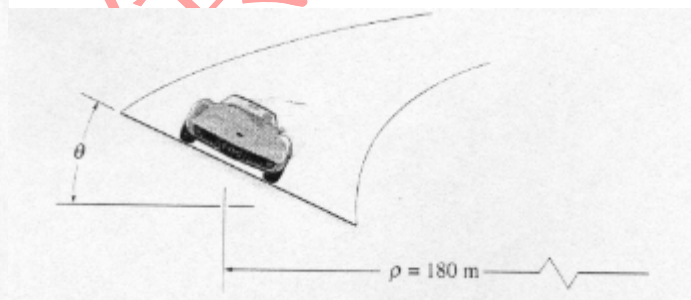

Figure 5 Sport car
5. Determine the banking angle θ of the circular track shown Figure 5 so that the wheels of the sports car will not have to depend on friction to prevent the car from sliding either up or down the curve. The car has a negligible size and travels at a constant speed of 30 m/s . The radius of the track is 180 m . (20%)